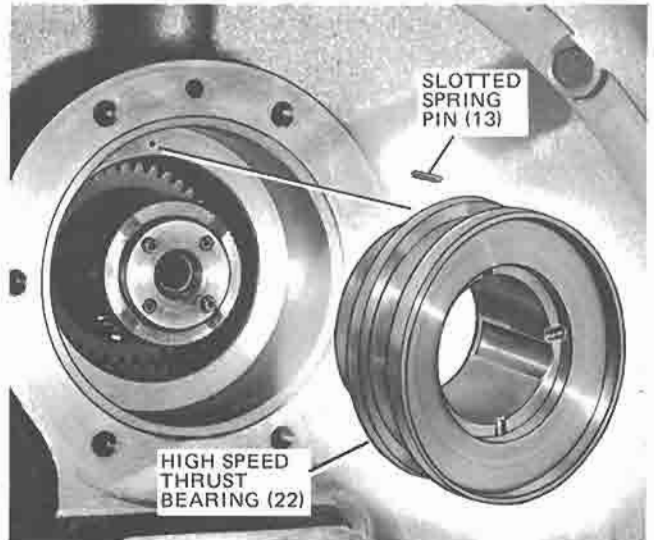

FIG. 33 — ASSEMBLING REAR HIGH SPEED THRUST BEARING
**ASSEMBLING REAR HIGH SPEED THRUST BEARING (See Fig. 33)**
1. Oil the high speed thrust bearing (22) and insert into the bearing housing over the pinion gear bearing surface. Make sure the bearing is seated properly over the insert pin (13) in the housing. (Fig. 33).